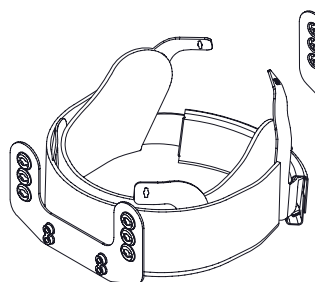

Figure 1
3. Pop the dark colored "U Channel" (Figure 1) away from the black inner liner. There is one "U Channel" in the front of the helmet and one in the back of the helmet.